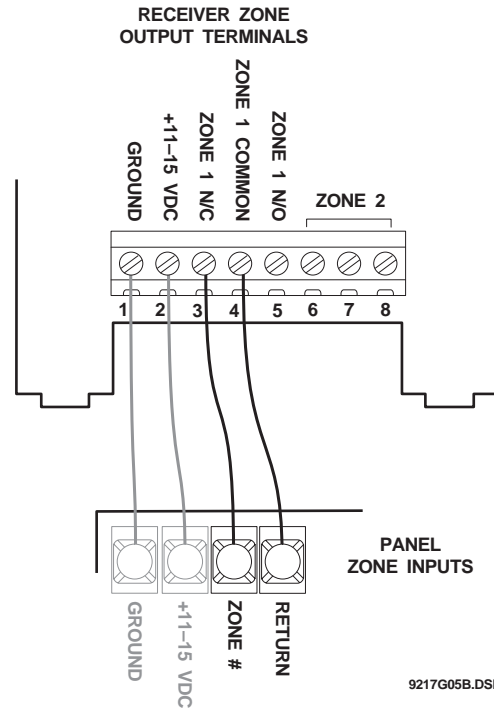

Figure 7. Wiring a receiver zone to be N/C
- 2) Using Figure 7 as a guide, connect the garage door opener wires to the appropriate receiver zone output.
Using Figures 7 and 8 as guides, connect the receiver zone output terminals to the panel zone input terminals. Each zone may be configured to be N/C (Normally Closed) or N/O (Normally Open).